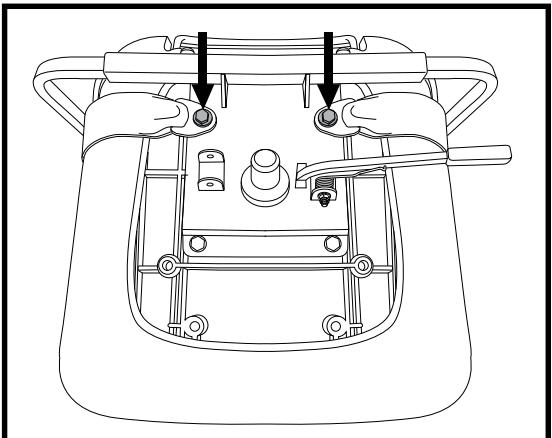

Figure 15. Positioning Belt Bolts
The seat rotation lever, located on the right side of the seat base, secures the seat into several positions. See figure 15
Your vehicle seat may be equipped with an auto-type positioning belt that can be adjusted for operator comfort. See **figure 15**. The positioning belt is designed to help support the operator so that he or she does not slide down or forward in the seat. The positioning belt is not designed for use as a restraining device.
2. Place the seat upside down so that you can see the bottom of the seat base. See **figure 15**.